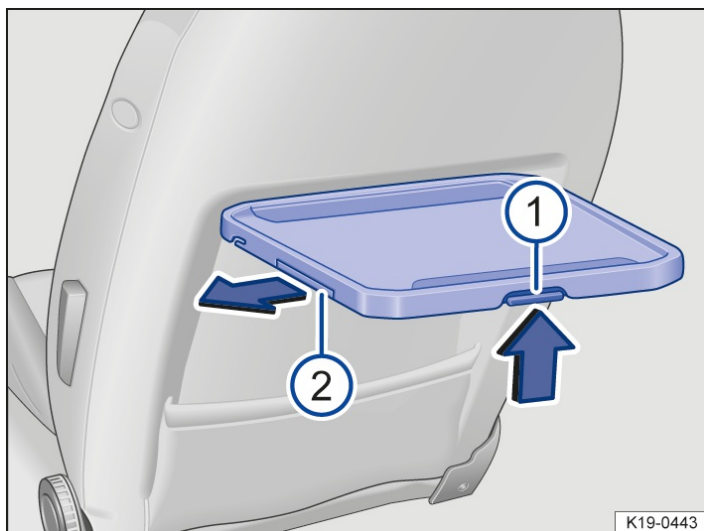

Fig. 1 On the left front seat: folding table with drink holder.
- *Folding away*: press locking lever → Fig. 1 (1) up and hold in position and then push the folding table down as far as possible.